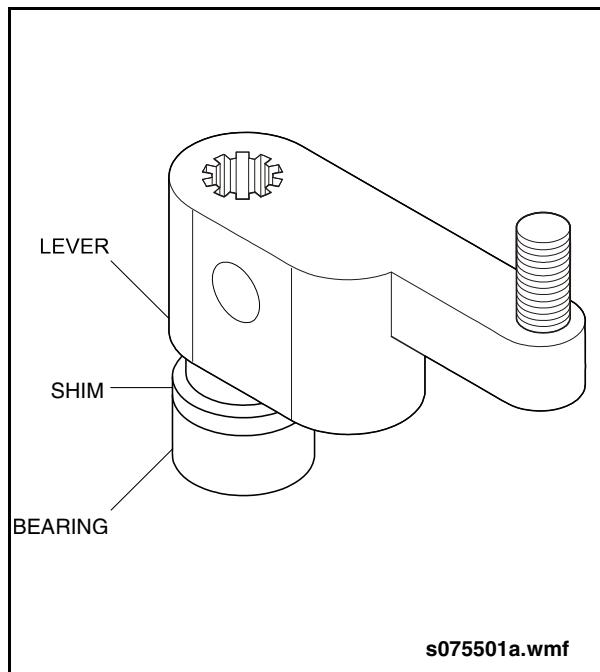

Fig. 16-21: Door Shaft Lever Shim Adjustment
4. With the doors in the fully closed position, check that the top brush forms a tight seal with the top of the doors. If gaps exist, install additional spacers between the door shaft lever and bearing to raise the door enough to form a tight seal. See "Fig. 16-21: Door Shaft Lever Shim Adjustment" on page 38.